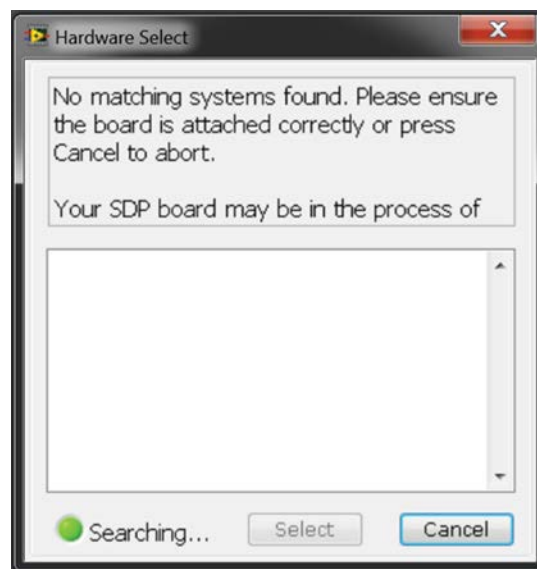

Figure 2. Connectivity Error Window
2. If the SDP-B or SDP-S board is not connected to the USB port when the software is launched, a connectivity error displays (see Figure 2). Connect the EVAL-AD5292DBZ board to the USB port of the PC, wait a few seconds, click **Rescan**, and follow the instructions.